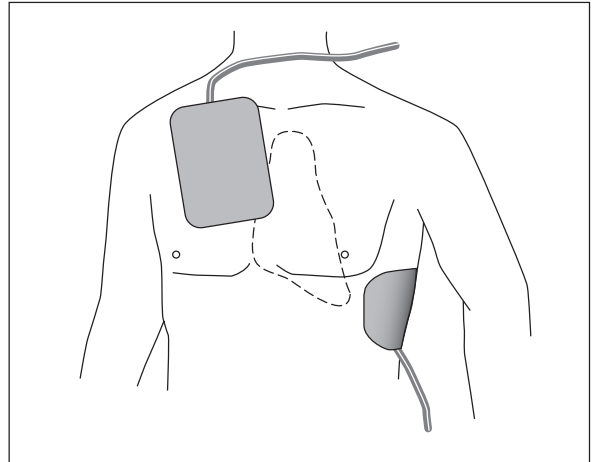

Figure 6-16. Pad application points
- Apply the pads as shown in Figure 6-16 (STERNUM: right sternal edge at the level of the 2nd intercostal space, APEX: left axillary line at the level of the 5th intercostal space; also observe the information given in section 4.4 "Defibrillating a Patient in the Semiautomatic Mode").